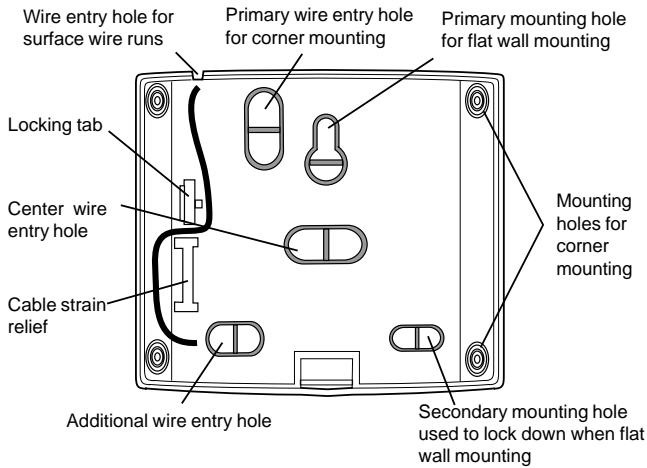

Figure 3. Back Housing
3. Open detector and, after selecting appropriate mounting and wire entry options, remove knockouts by depressing from the inside of the detector in the center of desired knockout (see Figure 3). The circuit board may be removed to facilitate mounting and removal of knockouts if desired.
6. Route cable through strain relief located on the far left side of the back housing (see Figure 3). Snap on the front housing.